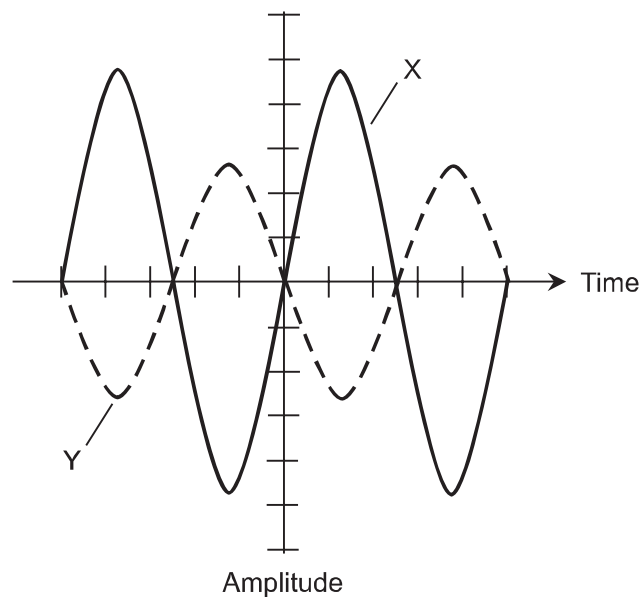

Fig. Test1-4. Illustration for Part One Test Questions 32 through 35.
32. In Fig. Test1-4, wave X and wave Y appear to be
33. In Fig. Test1-4, wave X and wave Y appear to have
34. In Fig. Test1-4, suppose each horizontal division represents 0.001 second (or 1 millisecond). Based on this information, it appears that the frequency of wave Y is
35. In Fig. Test1-4, suppose each horizontal division represents 0.001 second (or 1 millisecond). Based on this information, it appears that the peak amplitude of wave X is